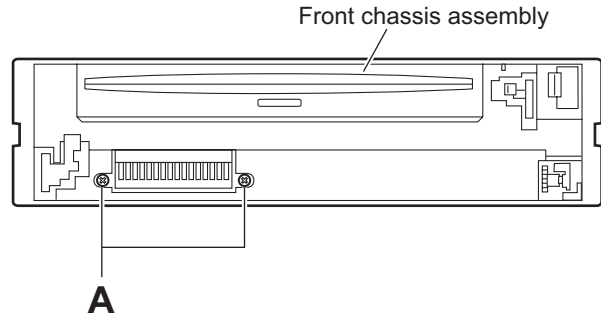

Fig.3
### 3.1.3 Removing the front chassis assembly (See Figs.3 and 4)
- From the front side of the main body, remove the two screws **A** attaching the front chassis assembly. (See Fig.3.)